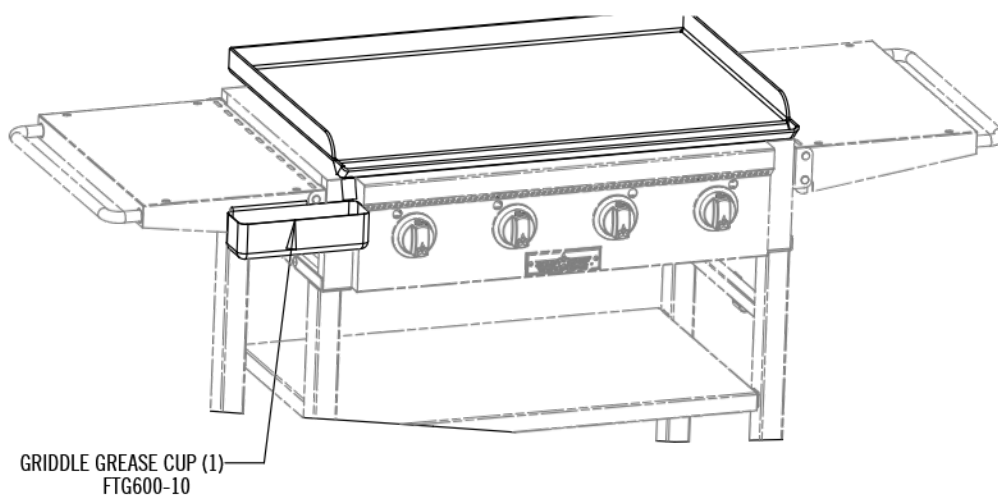

FIG 8
18. Install the griddle grease cup holder as shown in Figure 8. (Note: Make sure the grease cup is slid all the way to the right side so it is under the grease drain tube of the griddle.)